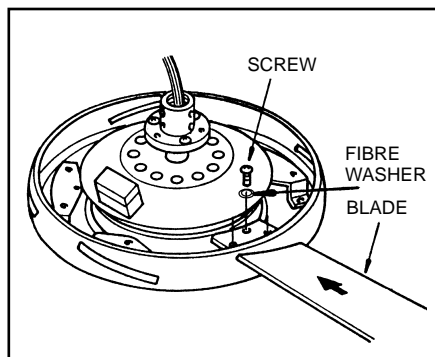

Fig.6
**Step 3.** Insert the blade through the slot in the housing. Align holes in blade and motor and secure with proper screws. Repeat process with the other blades. Reinstall top housing cover. (Fig 6 & 7)